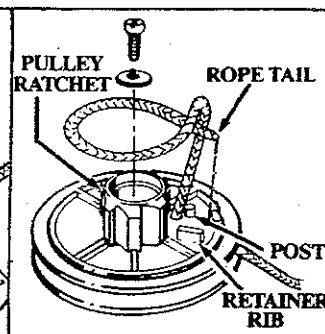

Figure 26
16. Wrap rope counterclockwise ← around pulley ratchet and tuck loose end back under rope where it comes out of hole. Leave a 1/4 to 1/2 inch tail laying flat on the top of the pulley alongside the retainer rib and between the rib and post. The rope tail *must not* extend beyond the edge of the pulley. Figure 26.